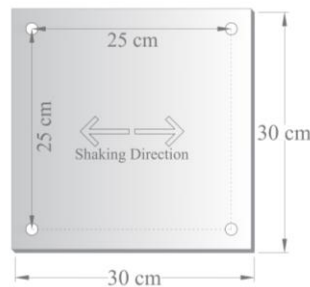

Fig: 3.1
- **Baseboard**- The dimensions of the baseboard will be 30 cm by 30 cm. Four bolts will be placed on the baseboard in such a way that the distance between the two bolts is 25 cm, as shown in Figure 3.1. Besides, the baseboard will have drilled holes to let cable ties attach to the structure.
- The direction of uniaxial shaking (cyclic loading) will be marked on the base plate as shown in Figure 3.1 so that the participants can assemble their model considering the structural behavior while shaking on the shake table.